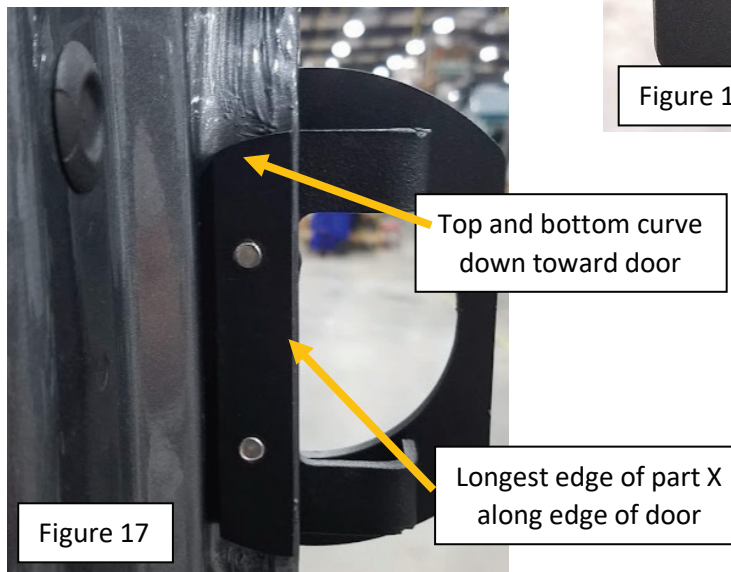

Figure 17
- f. Hold Nvader part X on the back side of the door hem so the longest edge is toward the edge of the door and the top and bottom of the part curve down toward the door as shown in figure 17.